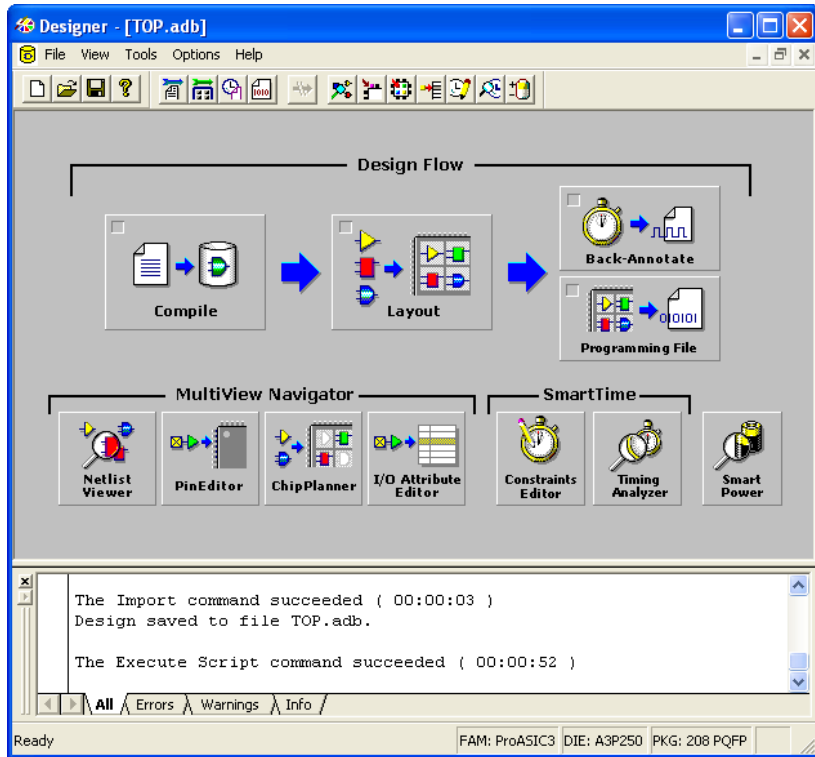

Figure 3-9. Designer GUI
4. Click **Finish** to accept the default settings in the Device Selection Wizard – Operating Conditions dialog box. The Designer GUI appears (Figure 3-9).